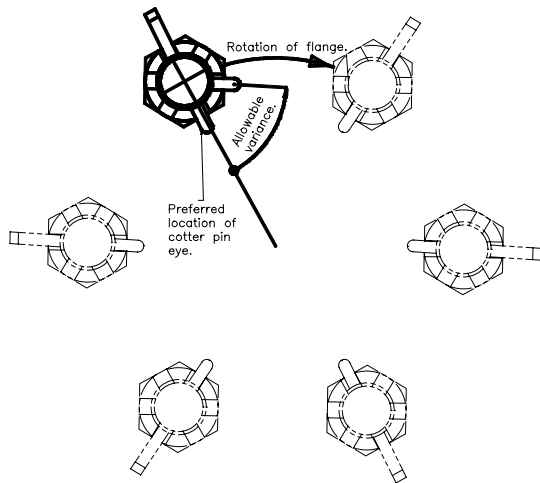

Figure 1
- Place the spinner aft cone and face plate on the front hub face and insert bolts through the assembly. The bolt heads must be aligned with the face plate to avoid rotation. The drilled cotter pin hole must be aligned as shown in **Figure 1.** Install washer(s) and castellated nuts finger tight lubricated with AeroShell 22 grease or equivalent (MIL-G-81322D). The nuts must thread on bolts freely.
9. Install cotter pins, reference **Figure 1**.